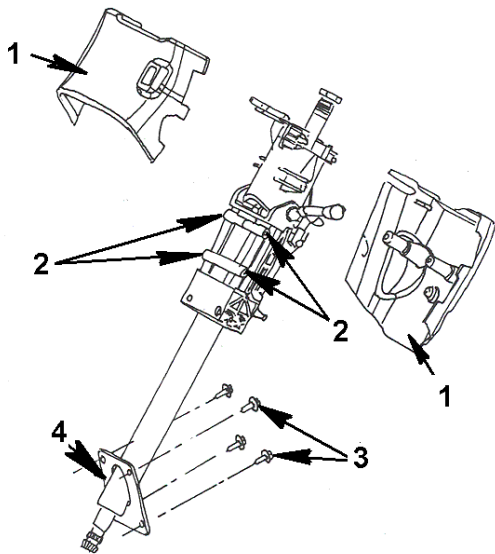

Figure 105 Steering Column Installation
3. With upper steering column mounting bolts securing steering column in the proper position, insert the lower mounting bracket bolts through the steering column mounting bracket (Figure 105, Items 3 and 4) into the cowl assembly.